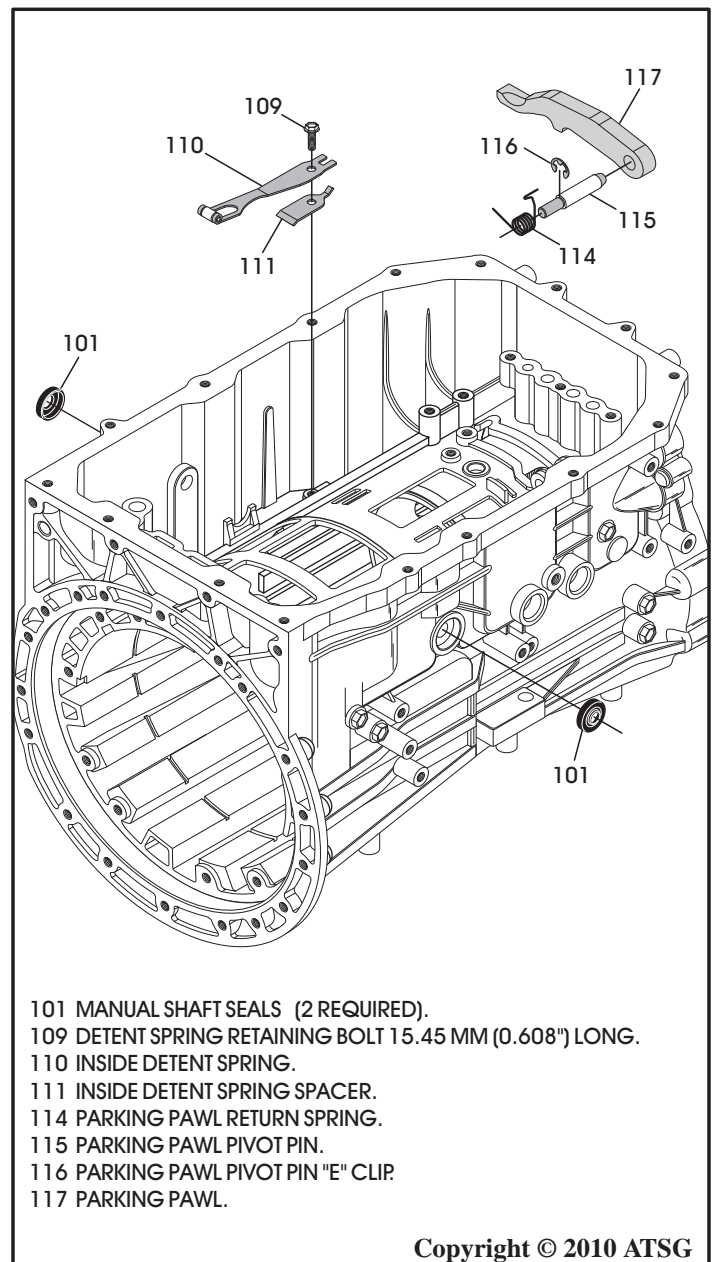

Figure 82
9. Install the inside detent lever spacer and detent spring, if it was removed (See Figure 82), and torque to 11 N·m (97 in.lb.).
10. Install *two* new manual shaft seals, as shown in Figure 82.
11. Install the parking pawl and park pawl pivot pin into the case, as shown in Figure 82.